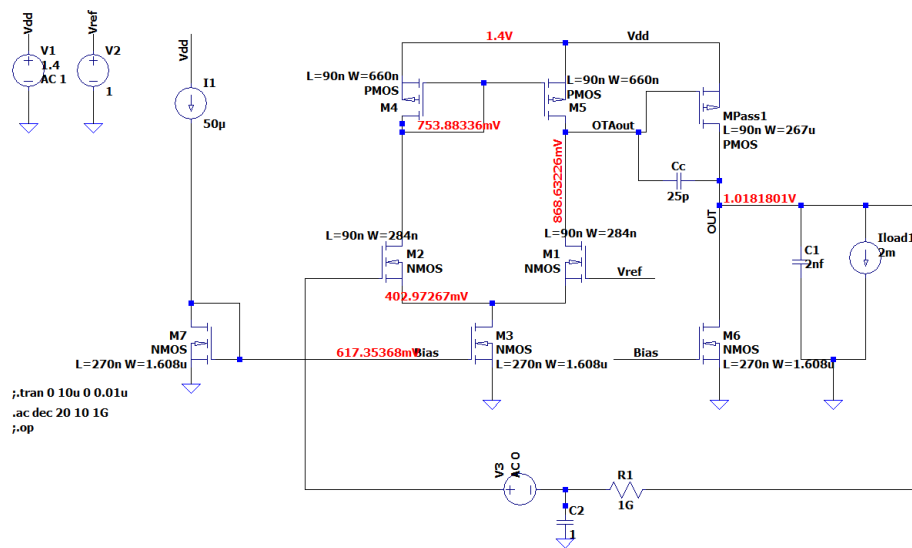

Figure 1: Our LDO schematic
An LDO is a type of linear regulator, which can regulate output voltages to values very close to the supplied input voltage. The input to output differential voltage, at which the LDO fails to regulate the output is defined as the dropout voltage. The structure of a generic LDO is provided in the block diagram shown in Figure 1. An LDO consists of an error amplifier (EA), an NMOS or PMOS pass transistor (PT) and a resistor divider forming a negative feedback loop. The EA is fed with a constant reference voltage ( $V_{ref}$ ) by a bandgap circuit and in turn controls the PT through the feedback loop and the resistor divider circuit. The EA tracks the error between the output and  $V_{ref}$  and accordingly regulates the gate voltage of PT. The PT acts as a variable resistor and adjusts the output current to further control the output voltage at the desired level.